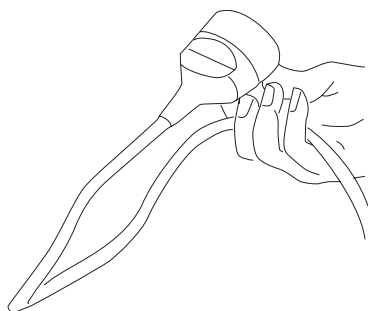

Fig. 17
4. Make sure the lock-off button (19) is in its off position.
5. Double the extension cord about 30 cm (12 inches) from the end. Lead the loop through the hole and hook the loop over the cord strain relief (17). Gently pull on the cord to ensure that it is firmly attached (Fig.17&18).